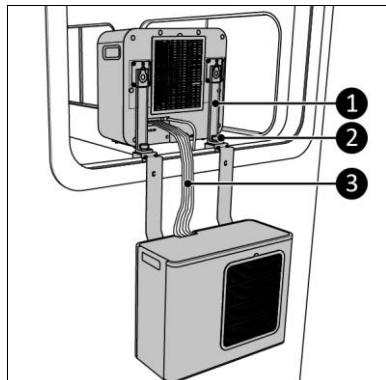

Figure 10
12. Lift the indoor unit through the window and place the hooks (Figure 10, pos. 1) on the threaded end (Figure 10, pos. 2).
13. Tighten the screw caps (Figure 2, pos. 8) on the threads (Figure 10, pos. 2).
15. The refrigerant hose (Figure 10, pos. 3) is guided between the indoor- and outdoor unit. Avoid bending the refrigerant hose in smaller bends than 30 mm.